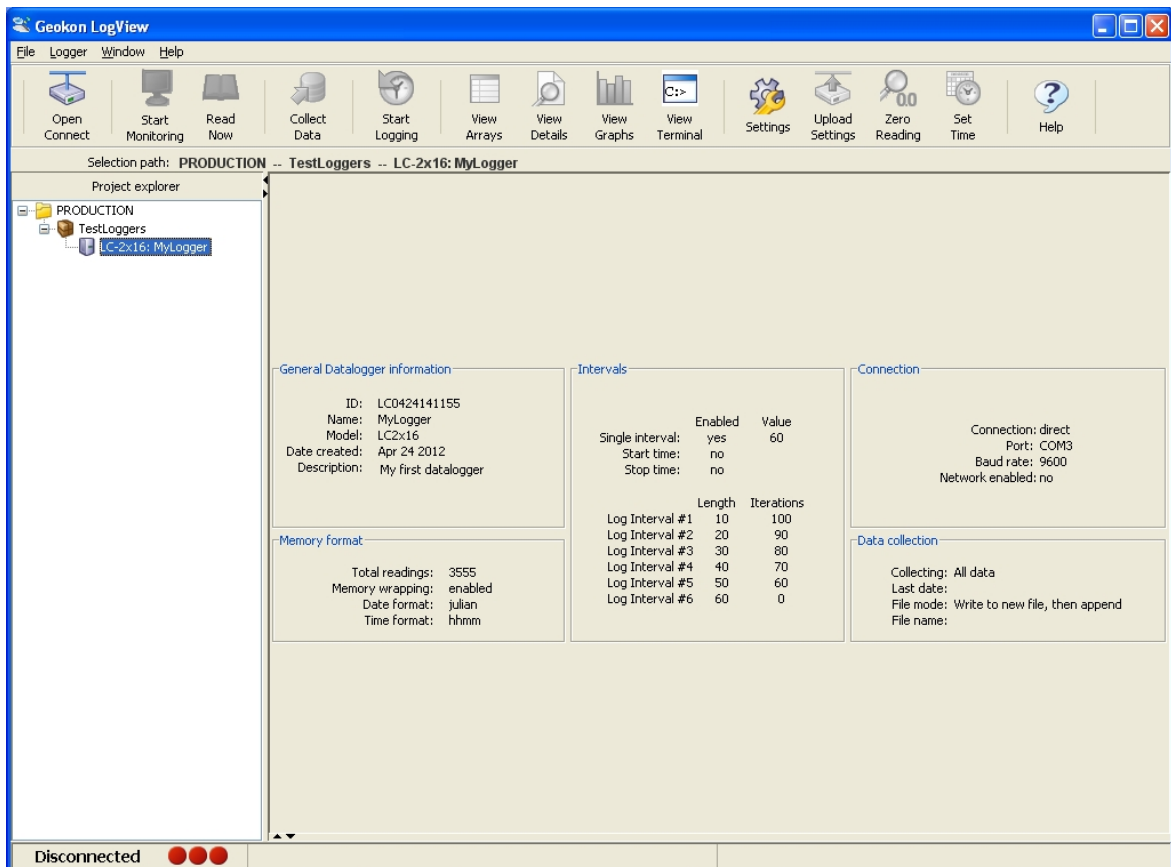

Figure 10 - Datalogger Highlighted - Not Connected
- 1) With a Datalogger profile configured and selected in the Project Explorer (see Figure 10), click on the “**Open Connect**” button on the LogView Toolbar.